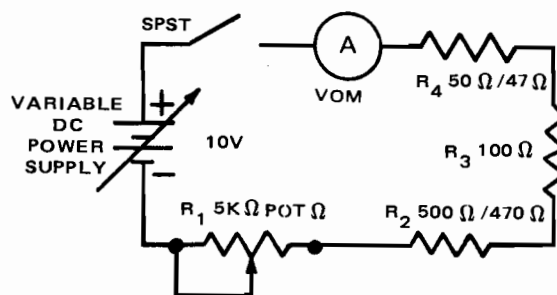

Fig. 5-1-2B
8. Turn off circuit switch and add a 5 k potentiometer to circuit between points A-B as indicated in Fig. 5-1-2B.